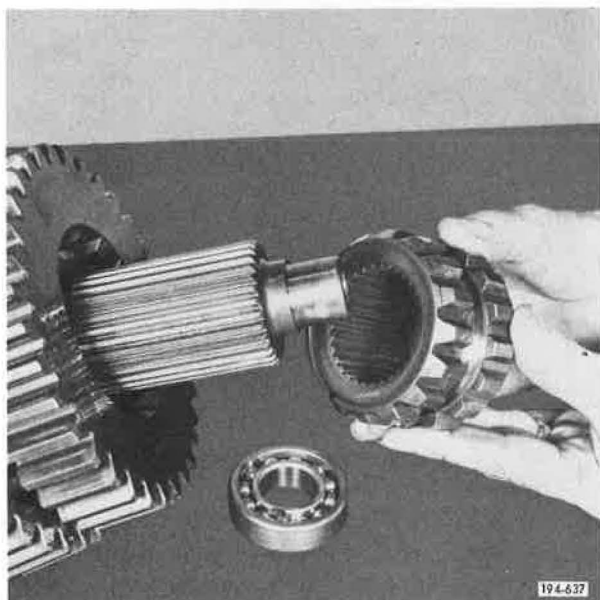

Figure 5-301. Removing Clutch
3. Remove fourth/fifth speed sliding clutch. See Figure 5-301.